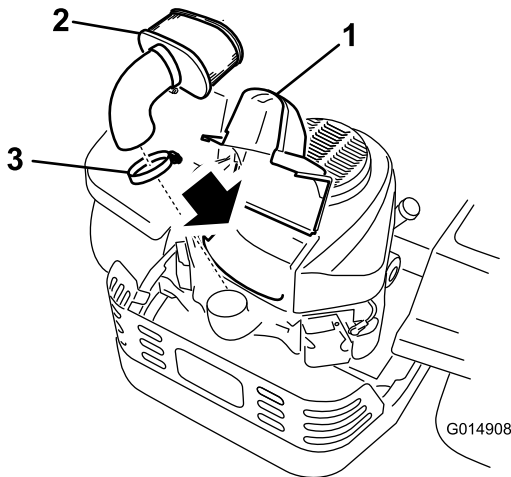

Figure 31
3. Clean around the air cleaner cover to prevent dirt from getting into the engine and causing damage. Lift the cover and remove the hose clamp securing the air cleaner assembly to the engine (Figure 31).
4. Loosen the hose clamp and remove the paper element (Figure 31).